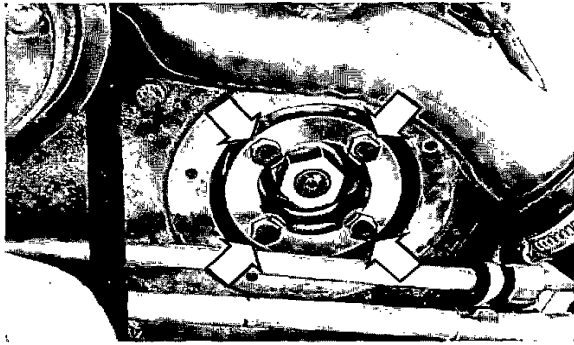

Fig. 125. Pump drive (60 series)
8. Fit the intermediate piece, lock washer and bolts for the pump drive (fig. 125). Tighten the bolts a little so that only the pump can be rotated. Make sure that the correct bolt length is used.
11. Rotate the pump shaft with a socket wrench (27 mm = 1 1/16") in the normal direction of rotation (clockwise) until the lift from the base circle (stroke position) mentioned in "Technical Data" is reached on the dial indicator. Tighten the bolts in the pump drive (fig. 125).